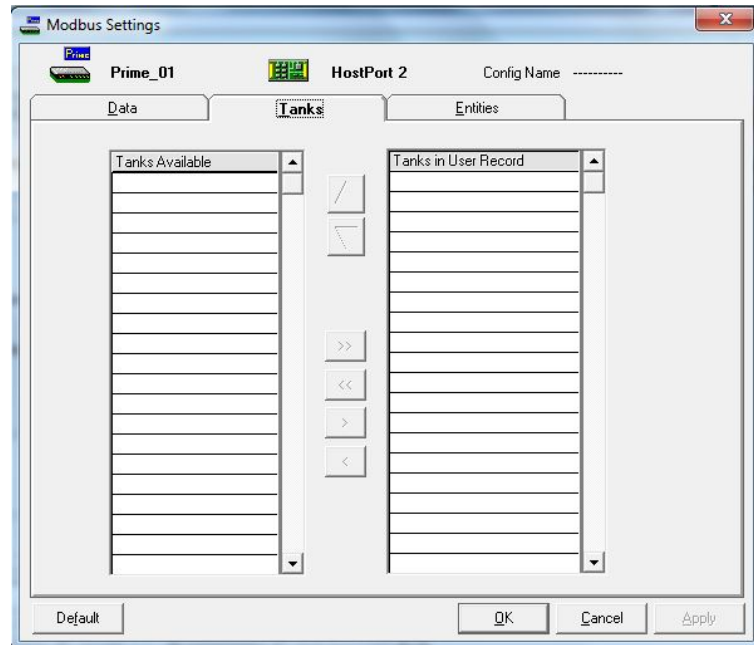

FIGURE 2-15
11. Go to the **Tanks** tab (See FIGURE 2-15). You can arrange the order of tanks using the arrow options. The order can be decided based on the priority on which you want to view the tank details.